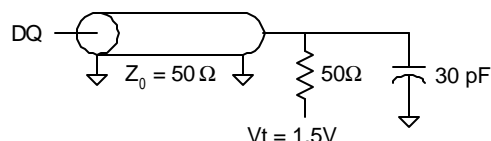

Fig. 1 OUTPUT LOAD EQUIVALENT
Output load	See Figures 1 and 2
- Test conditions as specified with the output loading as shown in Fig. 1 unless otherwise noted.
- Capacitance derating applies to capacitance different from the load capacitance shown in Fig. 1 or Fig. 3, for 3.3V or 2.5V I/O respectively